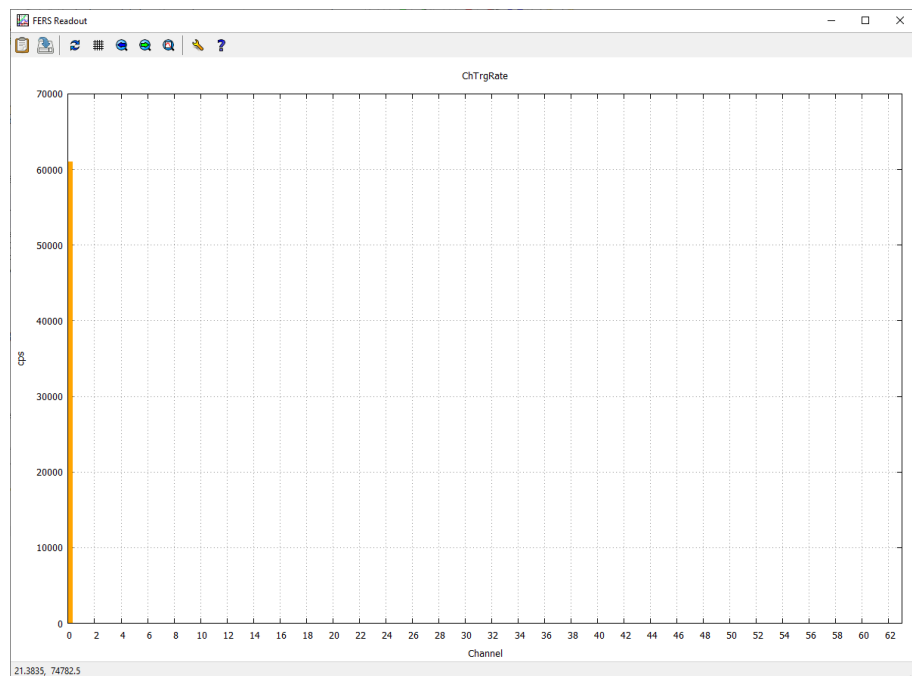

Fig. 10.33: Example of counting spectrum obtained with the internal clock.
9. Press the Start button. A plot similar to that in Fig. 10.33 will be visualized.